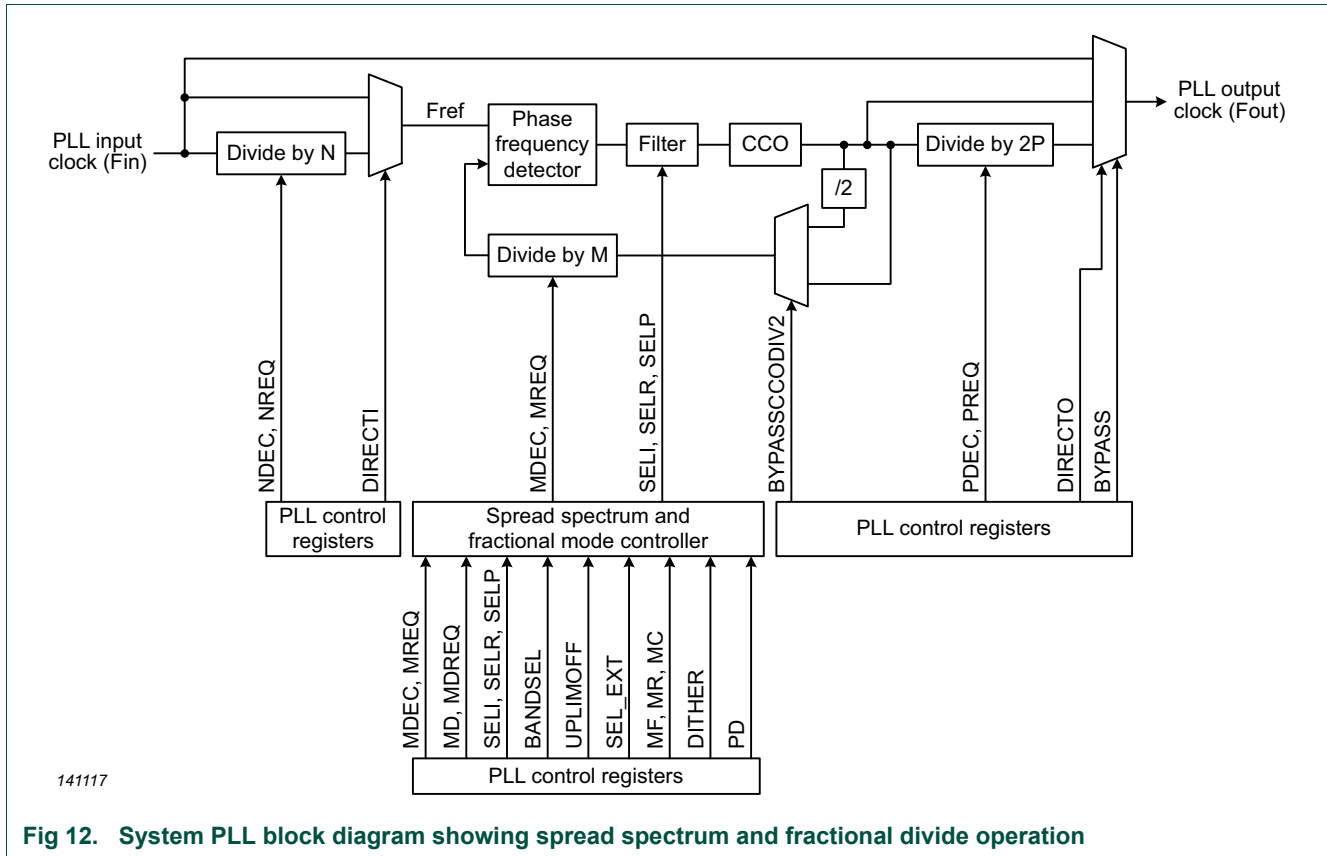

Fig 12. System PLL block diagram showing spread spectrum and fractional divide operation
- Input frequency: in normal mode, can include the 32 kHz RTC clock and 12 MHz FRO, or up to 25 MHz from the CLKIN pin. In fractional mode, Fref (see Figure 12) between 2 and 4 MHz.
A block diagram of the PLL as used in normal modes is shown in Figure 12.
The overall effect of the PLL otherwise the same as normal modes. A block diagram of the PLL as used in fractional mode is shown in Figure 12.
A block diagram of the PLL as used in fractional mode is shown in Figure 12.